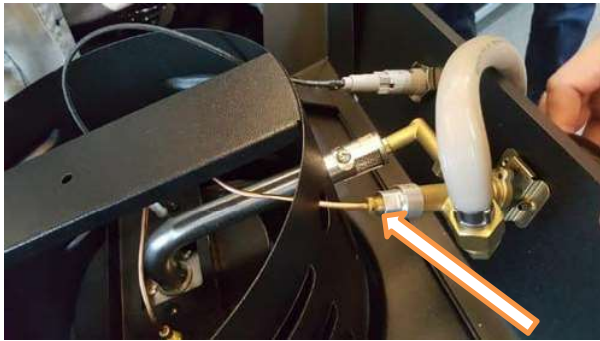

Fig. 1
1. Un-screw the FFD Thermocouple copper wire thread from the control panel valve as Fig 1, the thread screw is in an anti-clockwise direction.
4. Tighten the FFD Thermocouple copper wire thread into the control panel valve as Fig 1, the thread screw is in a clockwise direction. DO NOT OVERTIGHTEN but screw in fully as shown. 8mm size or small shifting spanner can be used.